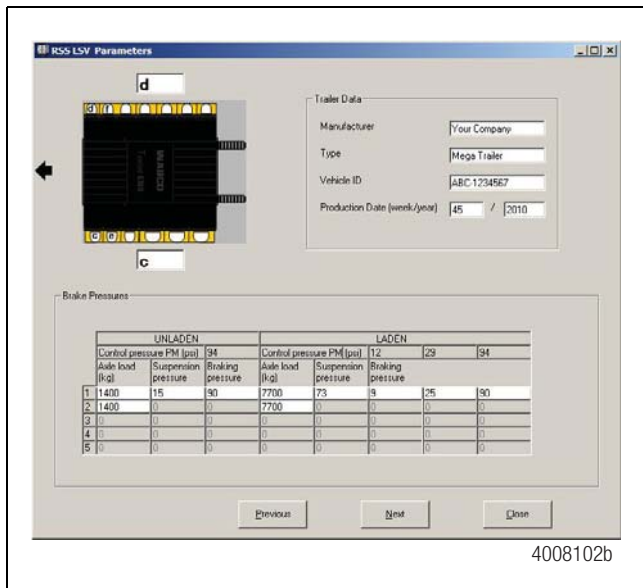

Figure 7.5
**Special GIO Functions** — Customized functions specific to the trailer. Click in the appropriate check box to select the function that has been installed on the trailer. Press **NEXT** to advance to the RSS LVS Parameters screen. Figure 7.5.